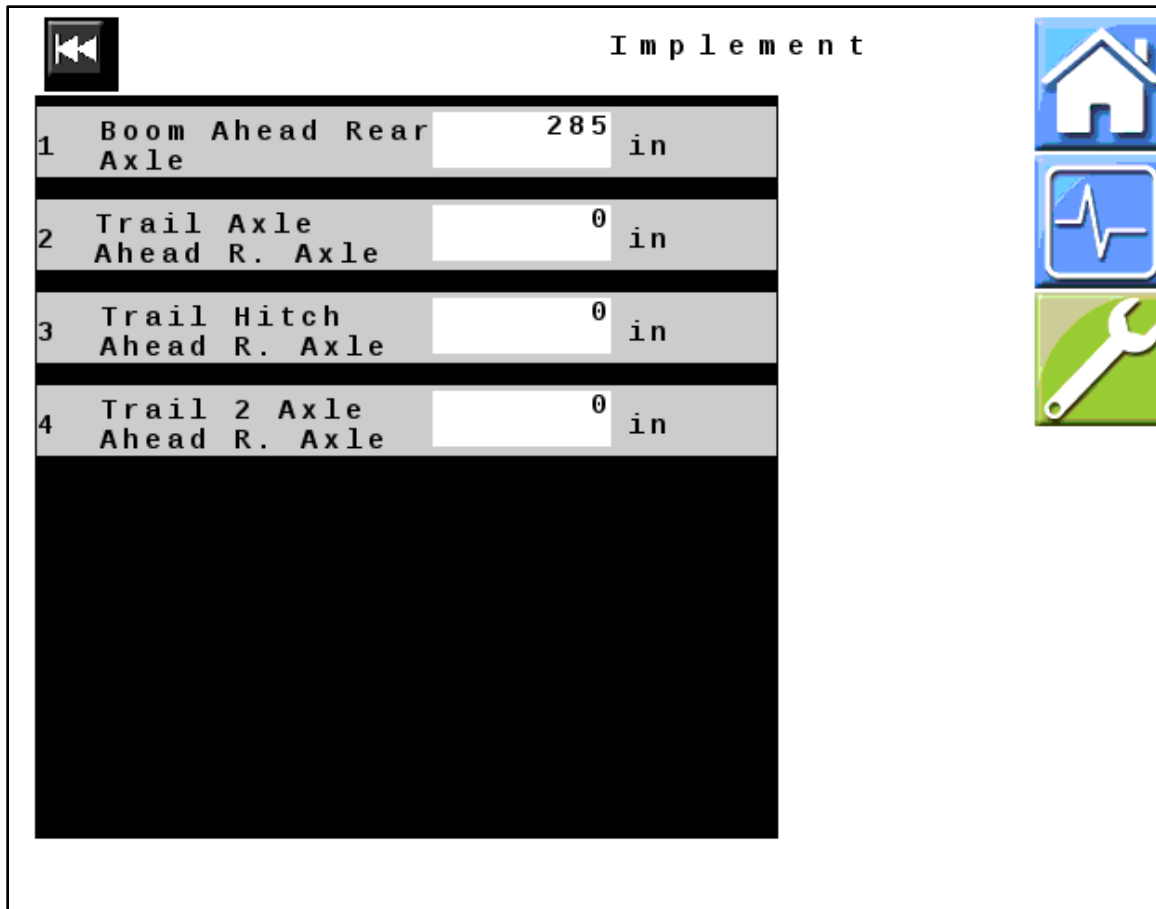

Figure 20 — Implement
35. *Figure 20:* Verify that all values displayed on your unit match those shown here. Change values if necessary.